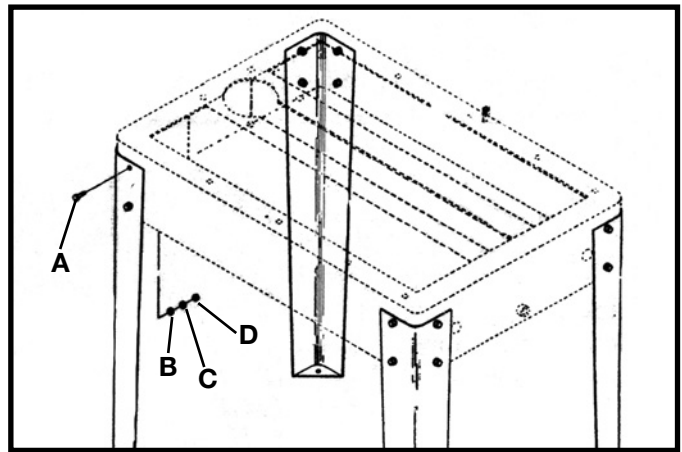
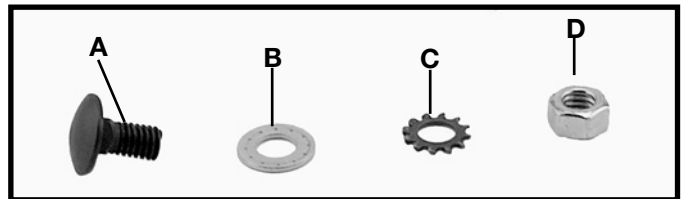

Fig. 4A
Fig. 4B
Mechanically lift the machine using a forklift and lifting straps to support the machine. The four steel legs should be attached to each corner of the base using sixteen 5/16-18 x 5/8" carriage head screws (A) Fig. 4A and Fig. 4B, 5/16" flat washers (B), 5/16" lockwashers (C) and 5/16" hex nuts (D).